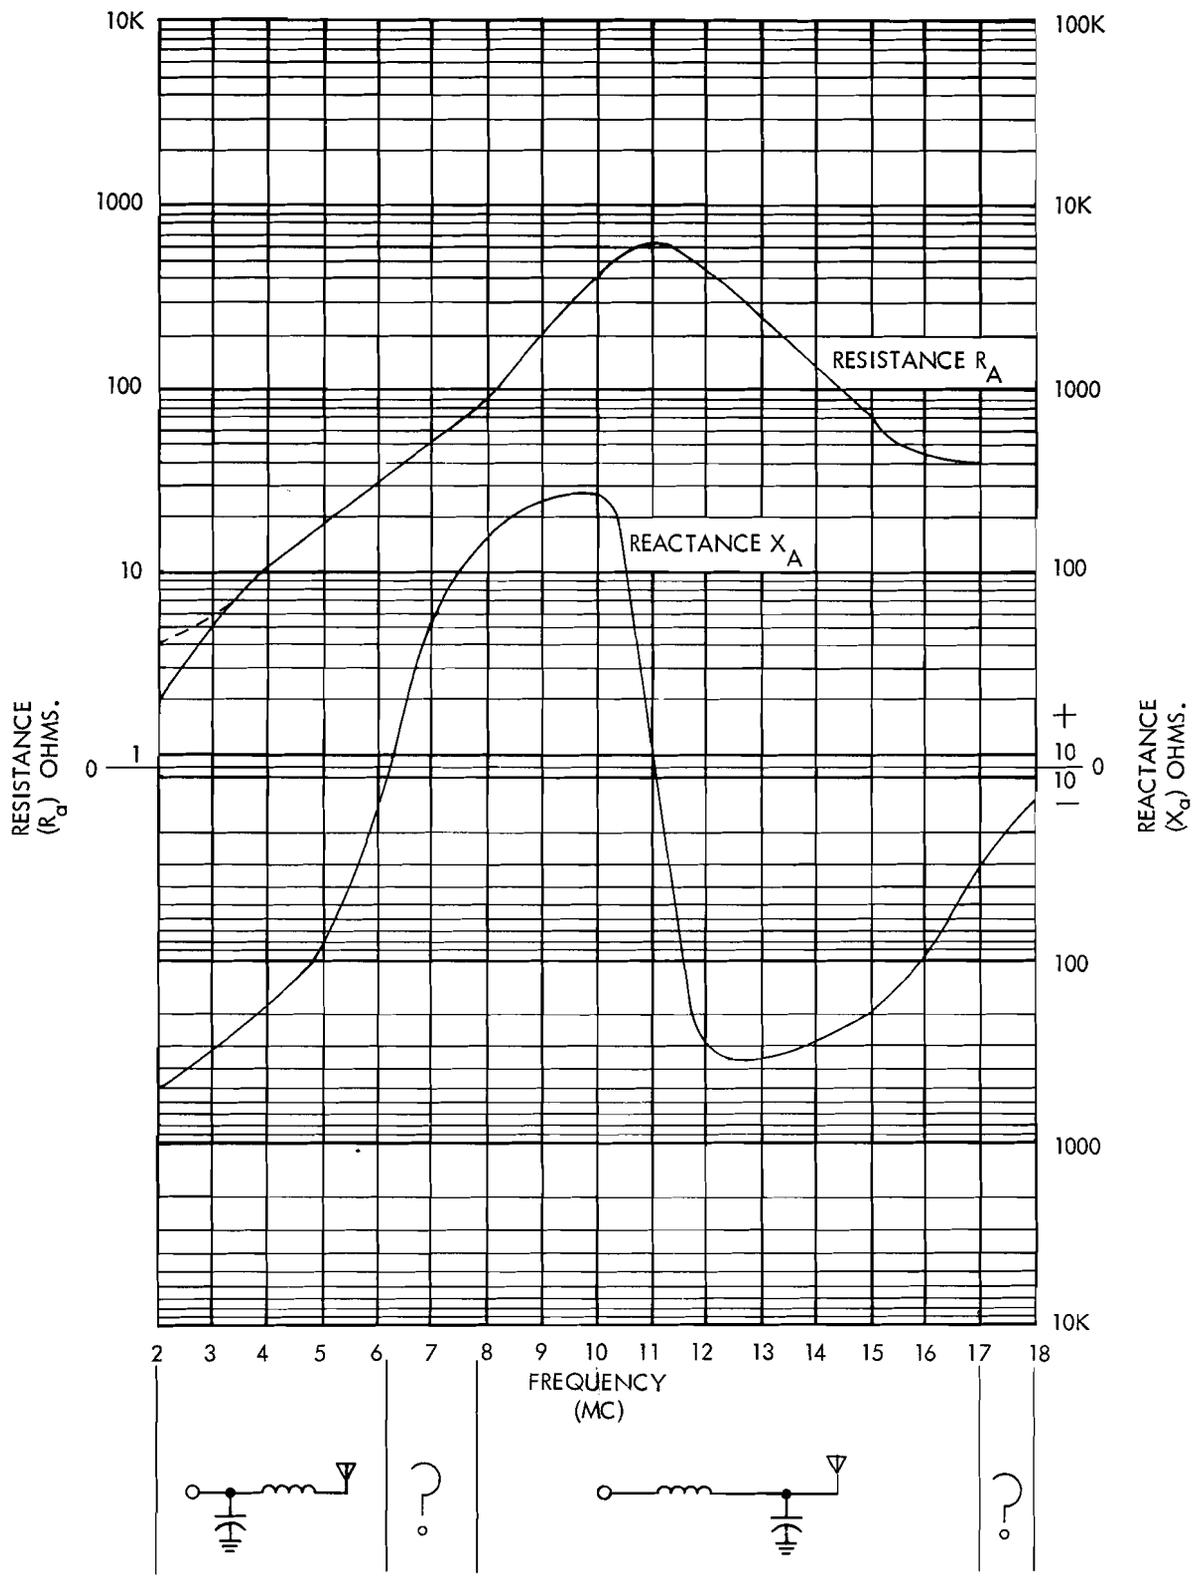

Figure 4-14. Reactance Chart for Unloaded, 35-Foot, Vertical, Whip Antenna
- w. When loading an antenna with a large value of  $R_A$ , it is difficult to see the antenna current meter reading when tuning with low power. It is advisable to use high power in these cases. For example, assume the antenna to be matched is the 35-foot whip at a frequency of 11 Mc. Figure 4-14 shows the  $R_A$  to be approximately 650 ohms. With a power input to the antenna coupler of 8 watts and an efficiency of 50%, the antenna current is 78 milliamperes. At 80% efficiency, the current is 100 milliamperes. With the input at 50 watts, an efficiency of 50% yields 200 milliamperes of antenna current. At 80% efficiency, the current is 240 milliamperes.